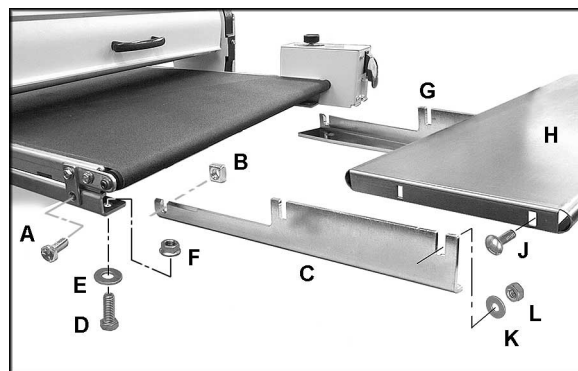

Figure 9
See Figure 9.
6. Position the table (H, Figure 9) over the brackets, and install four 1/4"x3/4" square neck bolts (J), 1/4" flat washers (K), and 1/4" hex nuts (L). *Do not fully tighten yet.*